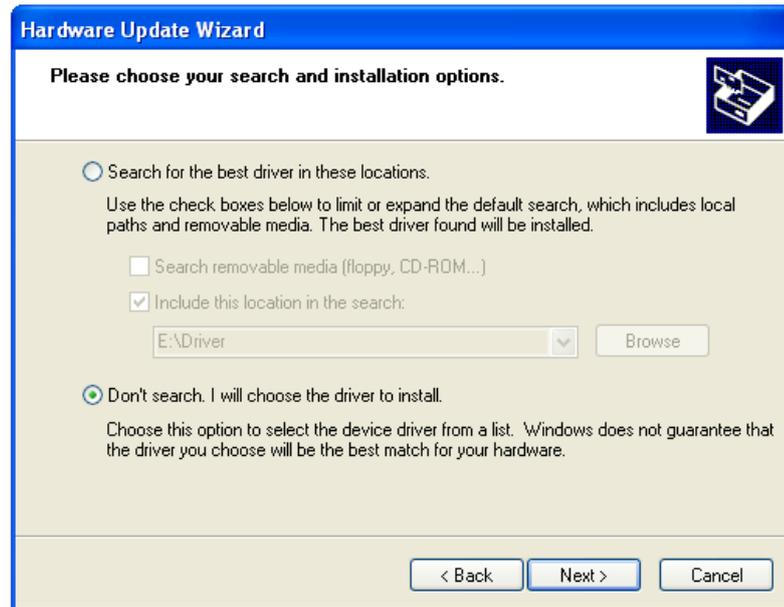

Fig. 47
- Choose “Don’t search. I will choose the driver to install” и click “Next” (*Fig. 47*).